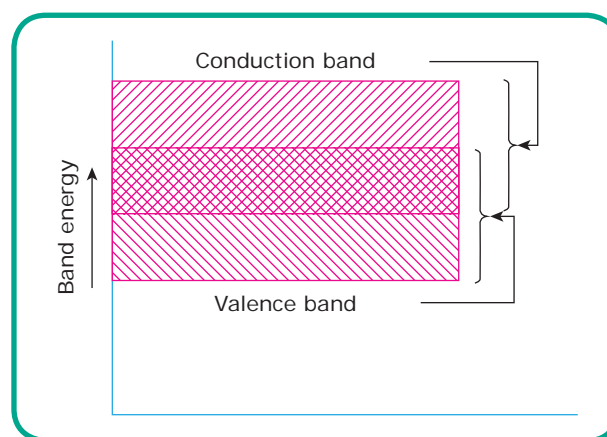

Figure3.14 Energy band of conductors
- a) **Conductors:** Metals (e.g. Copper, Aluminium) or conductors allow the passage of electric current through them, because of large number of free electrons available in a conductor. In terms of energy band, the valence and conduction bands overlap each other as shown in Figure3.14.